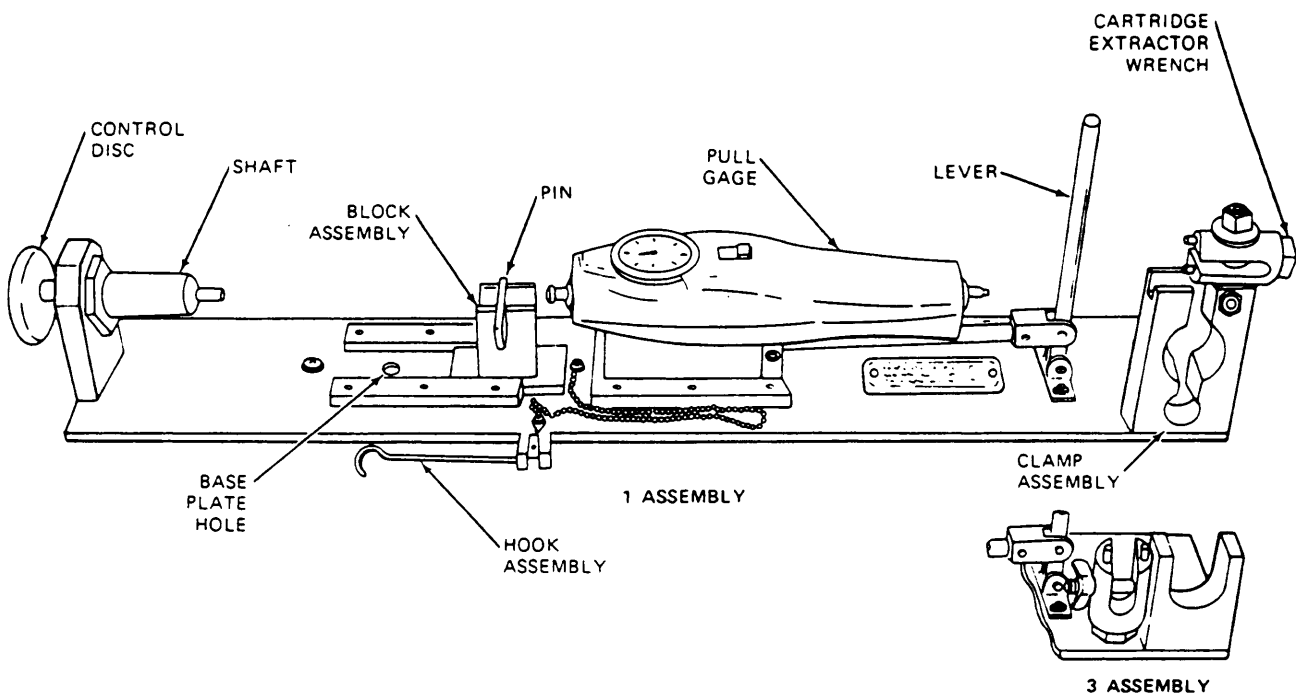

Figure 2-21.—Spreading gun test fixture.
1. Clamp the spreading gun test fixture to the packing table. Use one C-clamp positioned as close as possible to the clamp assembly. See figure 2-21 for the test fixture parts identification.
10. Attach the hook assembly to the firing pin hole, and slide the hook assembly block over the nut that is attached to the pull gage. (See figure 2-21).